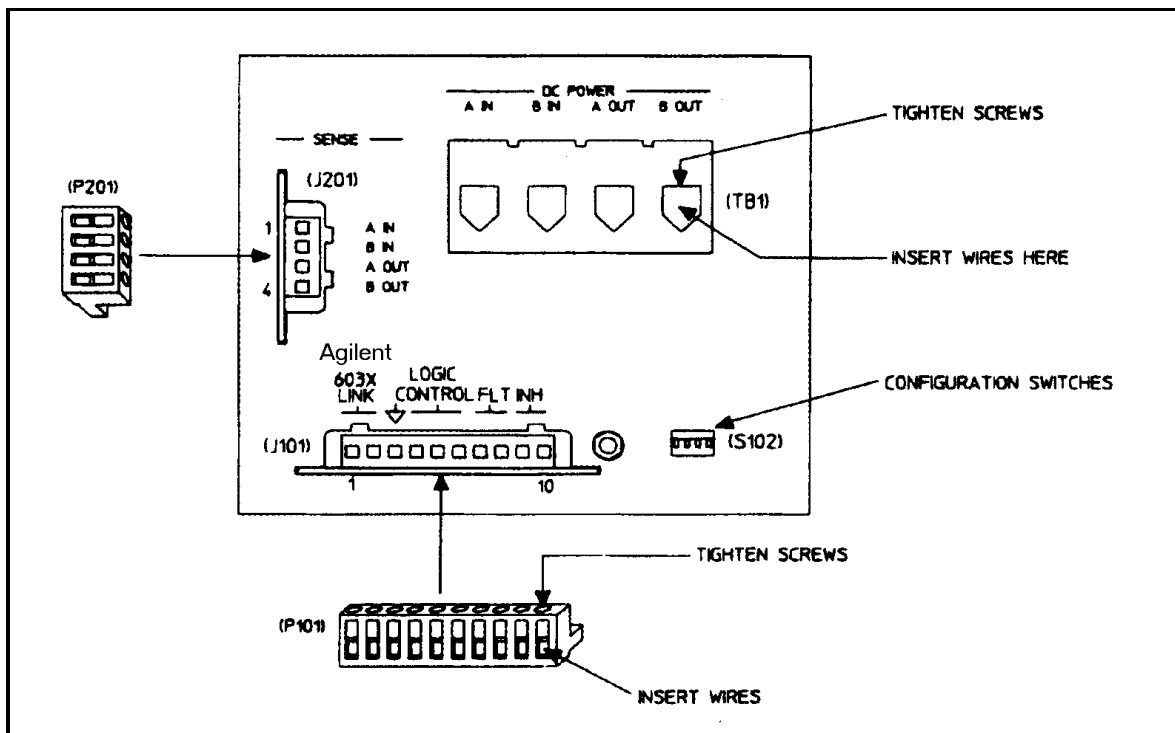

Figure 3-1. Agilent 59510A/59511A Front Panel Connections
Figure 3-1 illustrates the front panel of the Agilent 5951XA where connections and switch selections are made.
The dc power wires are connected to the screw-down terminals on the DC POWER barrier block TB1 as specified above. Each wire is inserted into the appropriate terminal and the corresponding screw is tightened until the wire is securely fastened (see Figure 3-1).
The sense wires are connected to the pins of the SENSE connector mating plug P201 as specified above. Each wire is inserted into the appropriate pin and the corresponding screw is tightened until the wire is securely fastened (see Figure 3-1). The plug is then installed in the SENSE connector (J201).
These switches (S102-1 to S102-4) are located on the rear panel of the Agilent 5951XA as shown in Figure 3-1. In order to program the Agilent 603XA/5951XA configuration, switches S102-3 and S102-4 must select address 0, and switch S102-2 must be set to the Agilent 603X LINK position ("1").
The remote inhibit ($\overline{\text{INH}}$) input (J101-9 and 10) and the fault ($\overline{\text{FLT}}$) output (J101-7 and 8) on the Relay Accessory (see Figure 3-1) are used in place of the $\overline{\text{INH}}$ input and $\overline{\text{FLT}}$ output on the Agilent 603XA power supply in an Agilent 603XA/5951XA configuration. The $\overline{\text{FLT}}$ line provides the user with a means of knowing the status of any unmasked fault register bit, independently of the service request (SRQ) function available through the GPIB. The $\overline{\text{INH}}$ line controls the remote inhibit (RI) bit in the power supply's fault register and provides a way to disconnect the power supply output from the load. The fault registers are described in detail in the applicable Agilent 603XA Operating and Service Manual (see page 1). Both $\overline{\text{INH}}$ and $\overline{\text{FLT}}$ are negative true, i.e., they are active when they are low levels. Pins 8 and 10 are the commons for the $\overline{\text{FLT}}$ and $\overline{\text{INH}}$ signals, respectively. Both $\overline{\text{FLT}}$ and $\overline{\text{INH}}$ may be floated relative to ground and to each other. Refer to Table 1-1 for details.